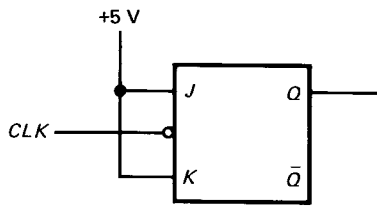

Fig. 7-19
- 7-4. The clock of Fig. 7-19 has a frequency of 1 MHz, and the flip-flop has a propagation delay time of 25 ns.
- 7-5. The clock has a frequency of 6 MHz in Fig. 7-19. What is the frequency of the *Q* output? This circuit is sometimes called a divide-by-2 circuit. Explain why.